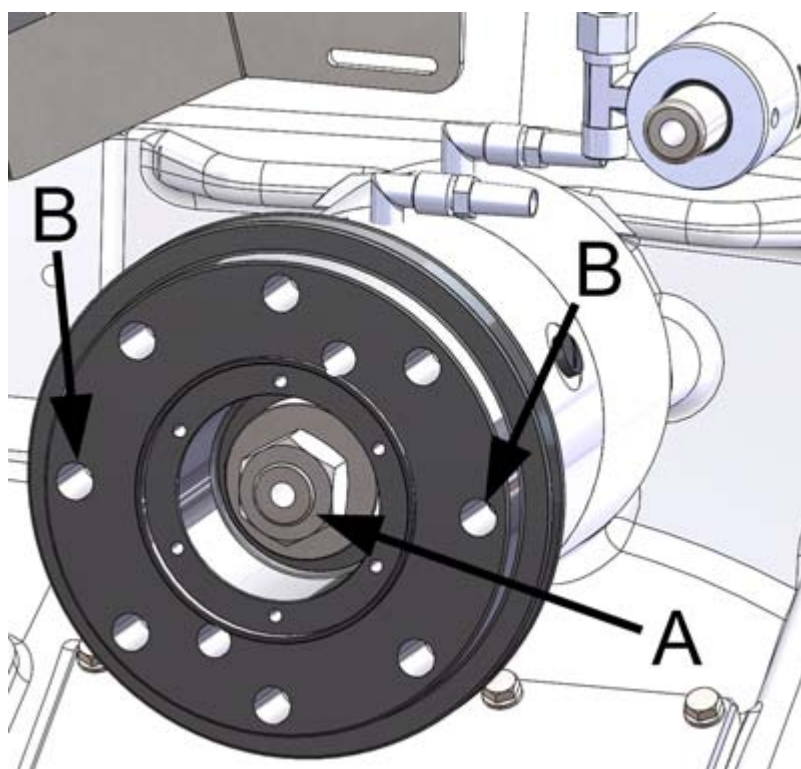

Figure 3. Drive flange fastening nut
If you need to replace the entire bearing, including the shaft, you can leave the drive flange in place and remove the bearing housing screws through the holes on the drive flange (figure 3, point B).
3. Unscrew the nut (figure 3, point A) and use pliers to remove the spacer under the nut. Pull the drive flange out of the cone with a sturdy extraction tool.